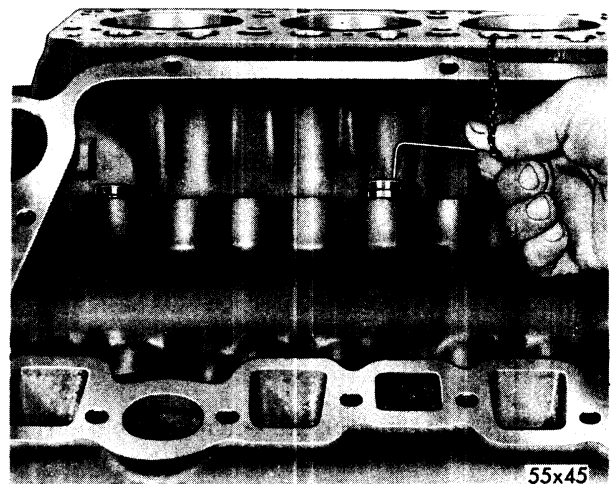

Fig. 84—Removing Tappet From Bore
- (1) Remove the bolts that hold the single rocker shafts and heads to the cylinder block. Lift rocker shafts and arms straight up and away from the heads. Remove the push rods and place in their respective slots in holder, Tool C-3068.
- (2) Remove intake manifold, as described in Exhaust System Section.
- (3) Remove the crankcase ventilator pipe and gasket.
- (4) Remove the bolts that hold the tappet chamber cover to the cylinder block. Lift cover up and away from engine.
- (5) Insert the hooked portion of Tool C-3158 into the hole in the tappet body, as shown in Figure 84. (This portion of the tool can be used to remove tappets without a varnish build-up (low mileage) around the lower part of the tappet body). Lift tappet out of bore; if the tappets stick in the bores, proceed as follows:
- (6) Slide the puller portion of Tool C-3158 through the cylinder head (push rod) openings and seat firmly in cap of tappet.